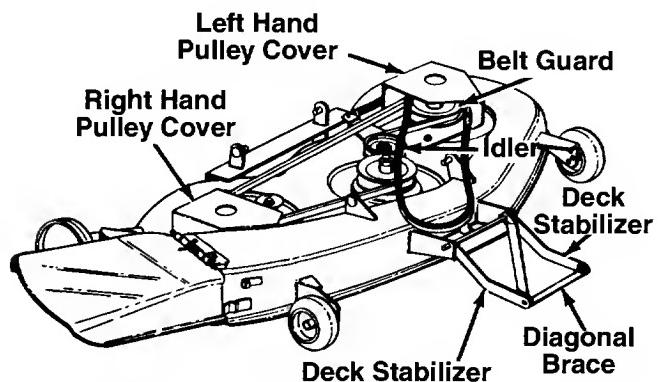

FIGURE 24.
2. Remove the left hand pulley cover by unscrewing the spring and removing five self-tapping screws. See figure 24.